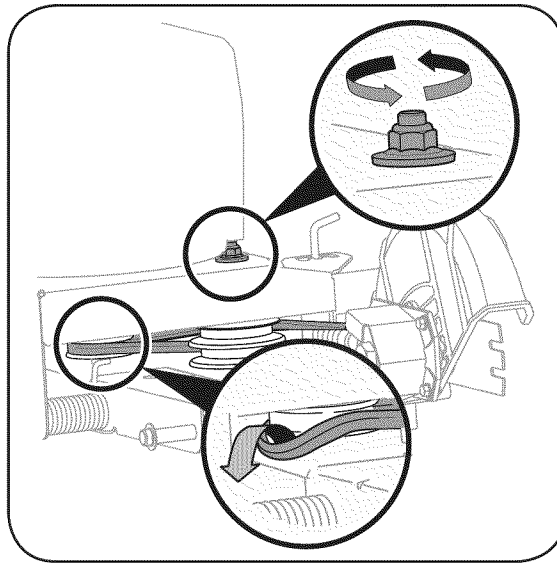

Figure 6-2: Loosen the lock nut and remove belt.
1. Working in front of the edger, loosen the flange lock nut on top of frame, allowing the idler pulley assembly to pivot slightly out from the frame, Figure 6-2.